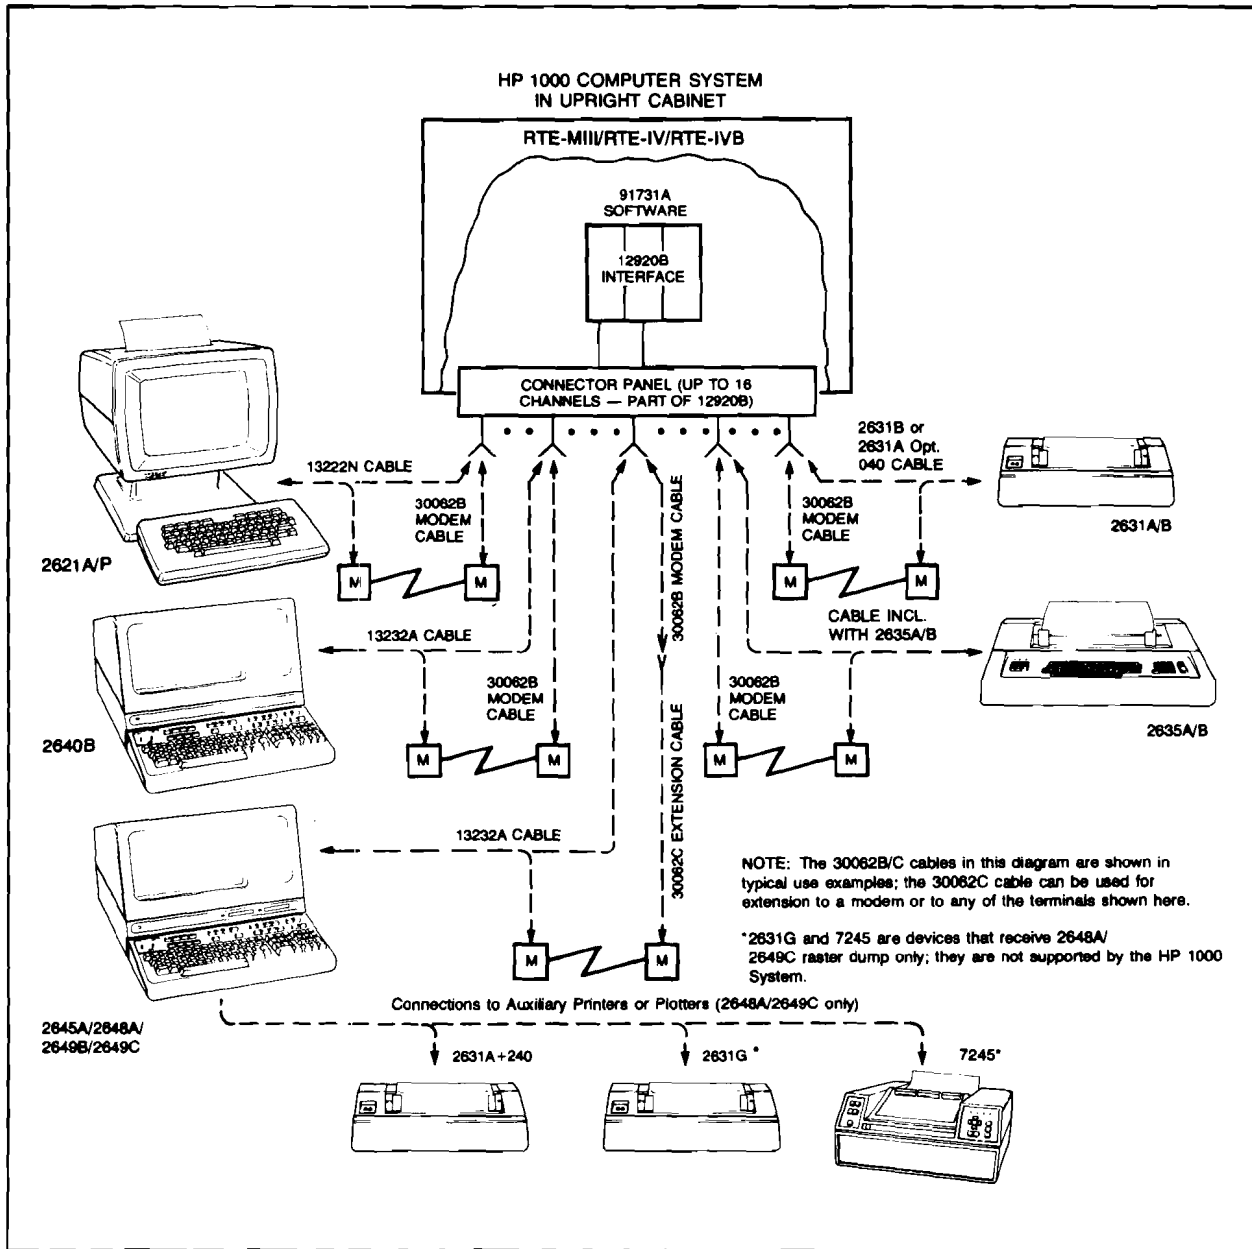

Figure 1. Typical asynchronous multiplexer connections
**WARNING: -12 volts on pin 17 of multiplexer panel connectors will destroy the receiver timing circuit of 264xA/B terminals connected using older 13232N cables. This voltage may also present a danger to other terminals unless the cables shown in the connection diagram of Figure 1 are used only with the terminals they are shown connected to.
Installation: To install, plug the two data interface cards into adjacent slots in the computer I/O backplane and the control interface into a third I/O slot, adjacent to the data interfaces. If used, the 12920B option 001 second control card plugs into a fourth I/O slot. Mount the connector panel in the rear of the 29402B cabinet housing the computer (within reach of the 3.6m (12 ft) interface-to-connector panel cables), connect the data and control cable assemblies between the interface cards and the connector panel. Then integrate the asynchronous multiplexer and 91731A software into the computer's operating system and connect terminals and/or modems to it (see Figure 1).